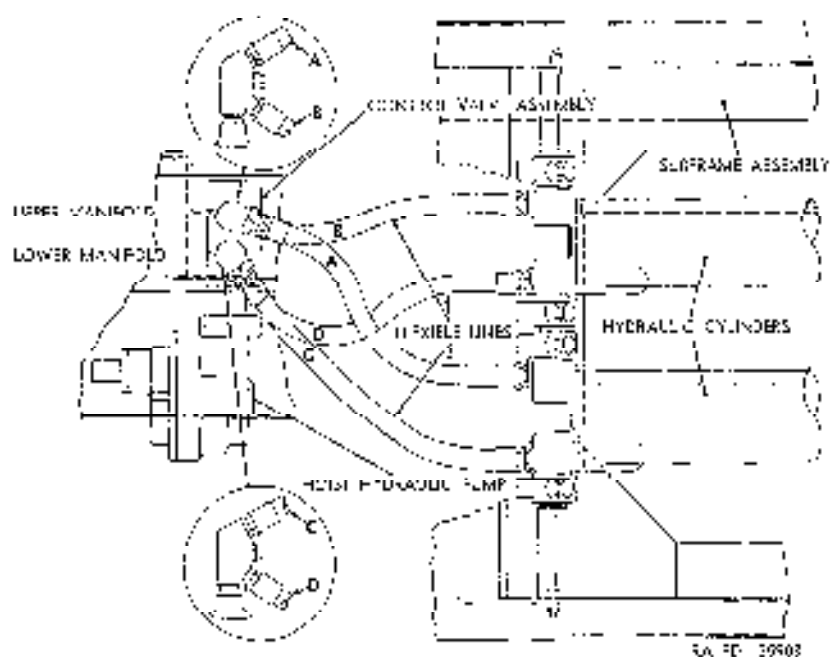

Figure 330. Hydraulic assembly flexible lines.
- (3) Connect two hydraulic flexible lines (fig. 325) to ports at base of cylinder. Refer to figure 330 when connecting lines.
- (2) Connect four hydraulic flexible lines to manifolds (fig. 322) installed in control valve ports. Refer to figure 330 when connecting lines.